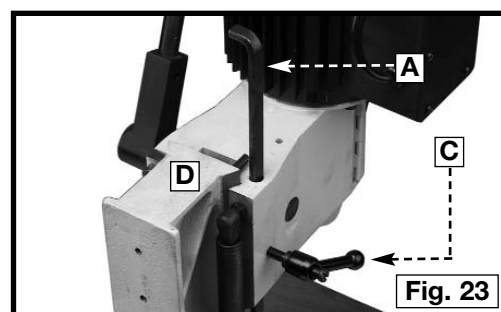

Fig. 23
A depth stop rod (A) Fig. 23 is provided to limit the depth of the chisel. To adjust the depth stop rod (A), loosen the lever (C) and lower the head until the chisel is at the desired depth. Lower the depth stop rod (A) until it contacts the top of the column (D) and tighten the lever (C).